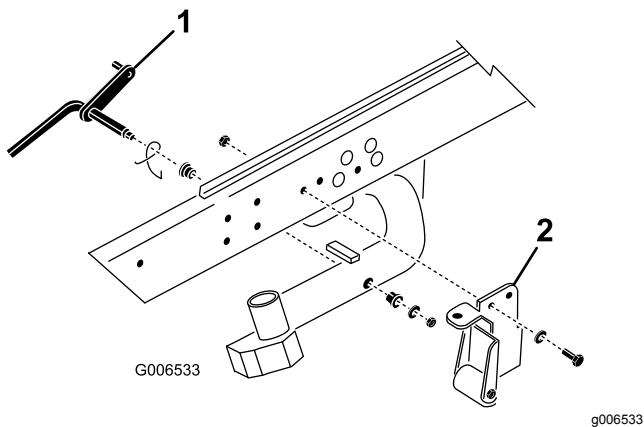

Figure 3
1. Remove the locknut and the washer securing the pivot rod to the number 2 lift arm (Figure 3). Remove the pivot rod and spring from the lift arm. Repeat the procedure on the number 1 and number 3 lift arms.
Note: The tipper bracket with the roller and the tipper support brackets are not required when operating the DPA cutting units (Figure 3).